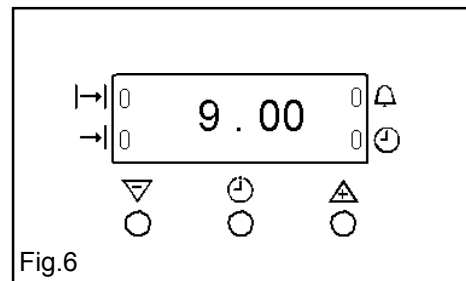

Fig.6
- i) Ensure the electricity supply is switched ON and that the correct time of day is displayed, e.g. 9.a.m. as Fig. 6.